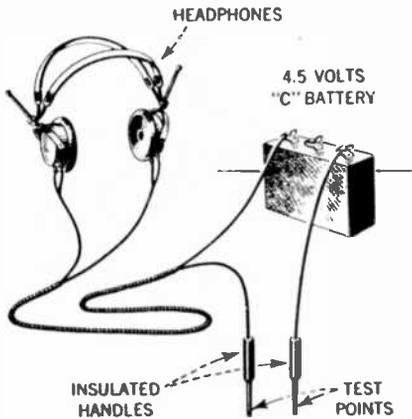
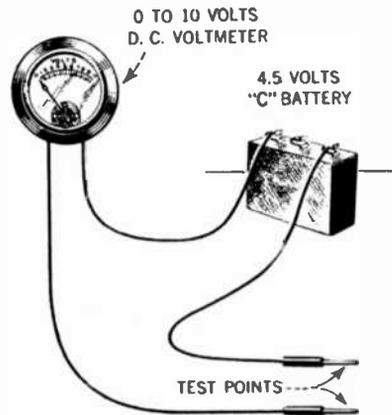

FIG. 55.—Headphones and battery for testing transformers, condensers, grid leaks, circuit continuity, etc.
FIG. 56.—Voltmeter and battery for testing transformers, condensers, grid leaks, circuit continuity, etc.
*Answer.* By employing a pair of headphones and a 4.5 volt battery as shown in Figure 55, or a voltmeter and battery as shown in Figure 56, the voltmeter being provided with a scale of sufficient size to give a readable deflection when connected to the battery terminals. In testing a transformer which is closed or
*Answer.* (a) In testing a variable condenser it should be removed entirely from the circuit, that is, all connecting leads should be removed from it. Then the headphones and battery test (see Figure 55), or the voltmeter and battery test (see Figure 56), as explained in answer to Question 96, may be made. If a click is heard in the headphones or the meter pointer is deflected, the condenser is defective. If no click is heard, or the meter pointer is not deflected, the condenser may be assumed to be in good condition.